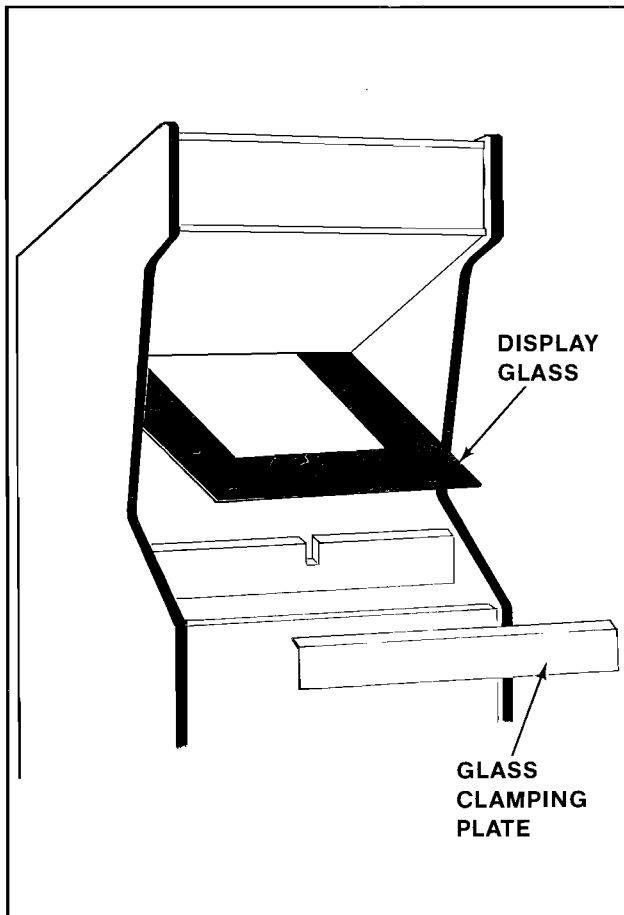

Figure 4-5 Removing the Main Display Glass & T.V. Bezel — Upright
- Remove the screws which secure the glass clamping plate. See Figure 4-5.
- By putting your finger in the hole in the middle of the main-display-glass support, you can lift it up and out. See Figure 4-5.